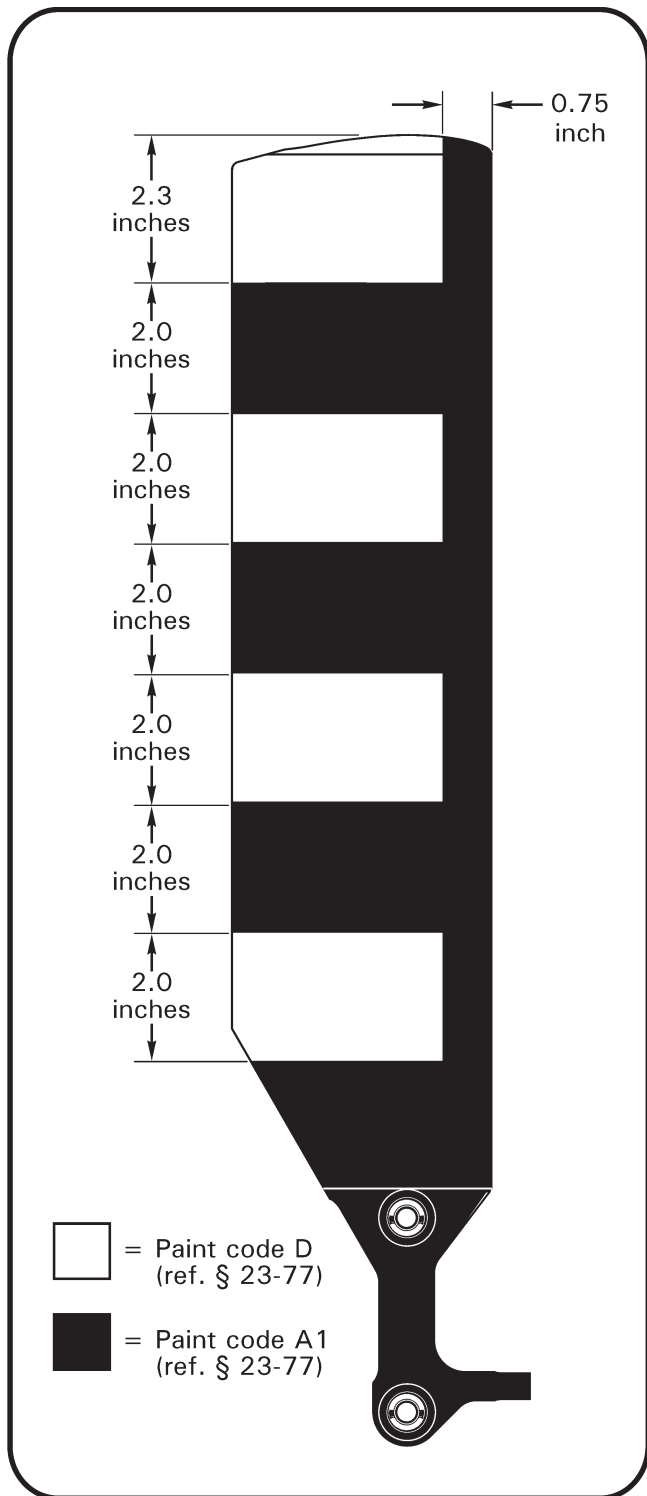

FIGURE 28-5 TAIL ROTOR BLADE PAINT SCHEME
4. Refer to Figure 28-5. Apply masking to bearings and white trim stripes. Apply black paint to black trim stripes and root fitting.
Preferred blade condition is with fully painted leading edge. Use two coats of Desoprime CA7502 epoxy primer (or equivalent). Scuff primer prior to applying second coat. Use Imron polyurethane enamel or equivalent paint. Refer to § 23-77 for specific paint codes. Blades with striped leading edges may be painted with solid black leading edge (ref. Figure 28-5) if desired for ease of application.